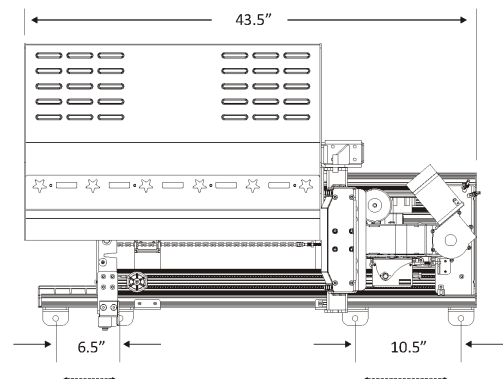

Figure 3-1
1. This is usually the third row. Determine the mounting range by climbing inside the cargo area and by closing the access door. Measure from the inside the door threshold to determine the lift's fully-stowed placement *See Figure 3-1.*